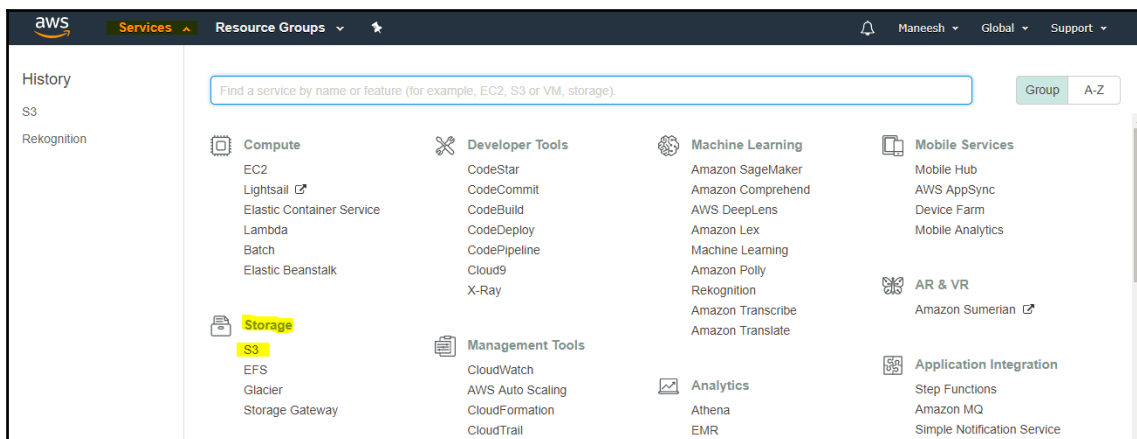

Figure 7.5
1. Once you create and log in to the AWS account using the AWS management console, click on **Services** in the top left. This will show all the available services, and from the available services, select S3 as shown in *Figure 7.5*: